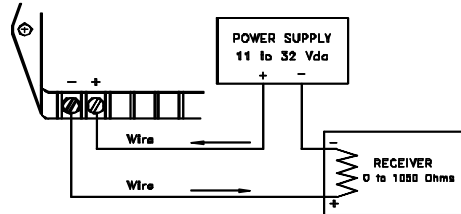

Figure 2
- B. Current Output units (PX291-XXXXDI): With the ammeter connected in the loop (see Figure 2), apply full pressure to the instrument and adjust the Span potentiometer (R2), until the output reading is 20.00mA.
This is a 2-wire 4-20mA pressure transmitter which requires an external power supply of 11 to 32Vdc to power the loop. The supply voltage should not exceed 32Vdc (see Figure 2)